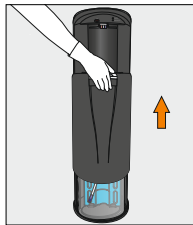

Figure 1
- 1) Slide the access door upwards to open (Figure 1).